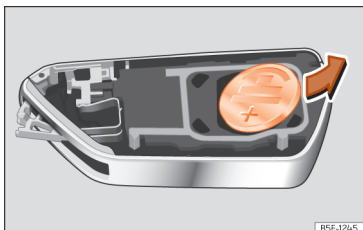

Fig. 70 Vehicle key: removing the battery.
- Remove the battery from the compartment with a suitable fine object >>> Fig. 70.
- Insert the new battery and press it into the battery compartment >>> ①.